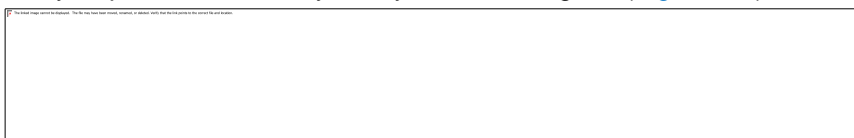

Figure 4-4
17. Now open the *Reports/Mainline Design Reports/System Duty Report*. Here we see the system duty required to run the system you have designed (Figure 4-4).